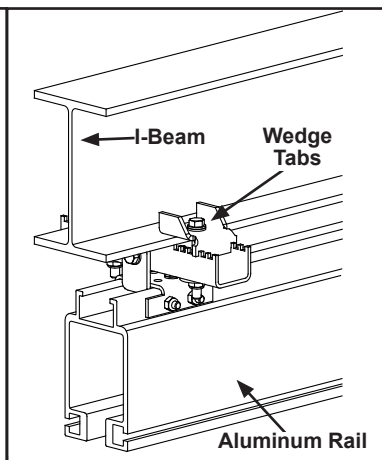

Figure 3-23
- Step 4. Place wedge tabs on top of lower flange. See Figure 3-23.